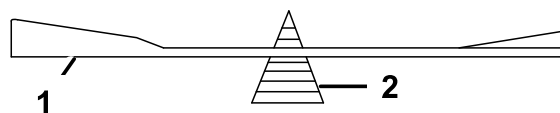

Figure 84
2. Check the balance of the blade by putting it on a blade balancer (Figure 84).